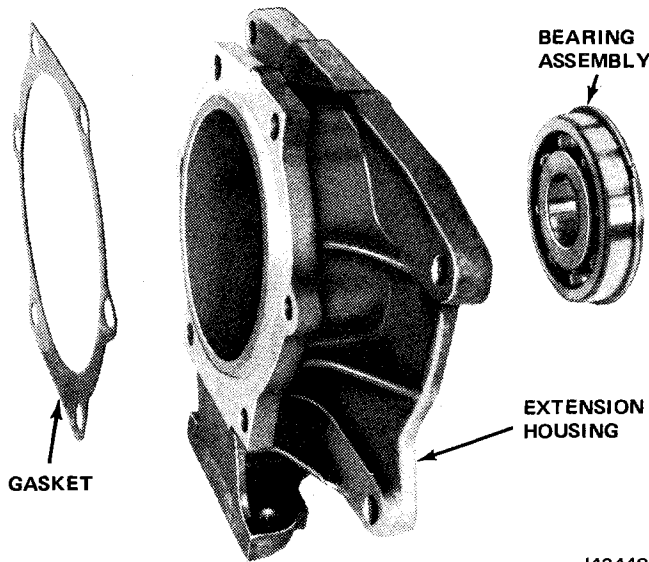

Fig. 2C-25 Extension Housing and Rear Bearing
- (3) Mount dial indicator on slide hammer bolt and position indicator stylus so it contacts end of turbine shaft (fig. 2C-26).
- (4) Push turbine shaft rearward.
- (5) Move output shaft forward to remove front unit end play.
- (6) Insert screwdriver between case and rear gear unit and pry gear unit and output shaft forward.
- (7) Set dial indicator to zero.
- (8) Pull turbine shaft forward and measure end play. Front unit end play should be 0.003 to 0.024 inch. Record reading for assembly reference.